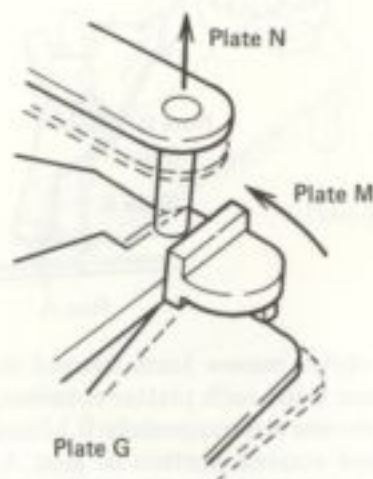

Fig. 18
4. With plate G motion, plate M is contacted and pin of plate N pushed up (Fig. 18).